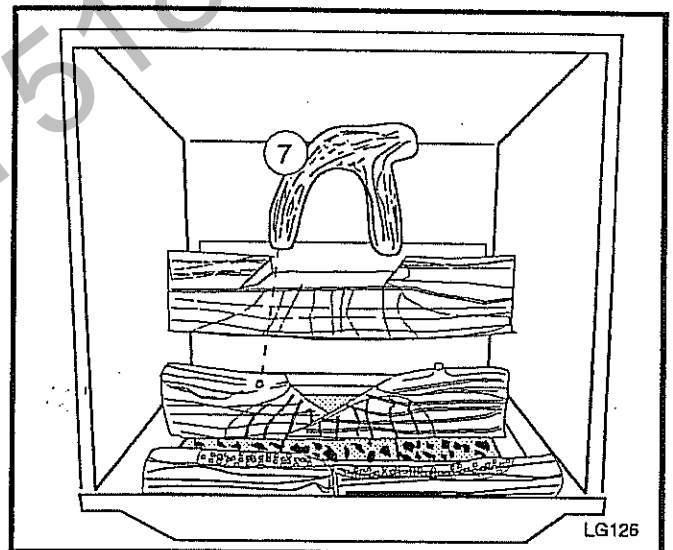

Fig. 59 Install top log.
6. Engage the Top Log (7) with the Rear Log and the pins on the Middle Logs as shown in Figure 59.